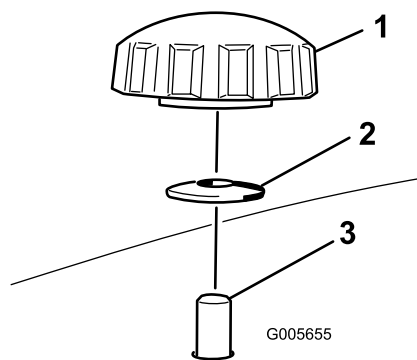

Figure 5
2. Install the left baffle into the deck securing the studs on the baffle from the top of the mower using 2 knobs and curved washers (cupped side facing the mower) as shown in Figure 4 and Figure 5.
3. Slide the right baffle through the discharge opening and secure it using 2 knobs and curved washers (cupped side facing the mower) as shown in Figure 4 and Figure 5.